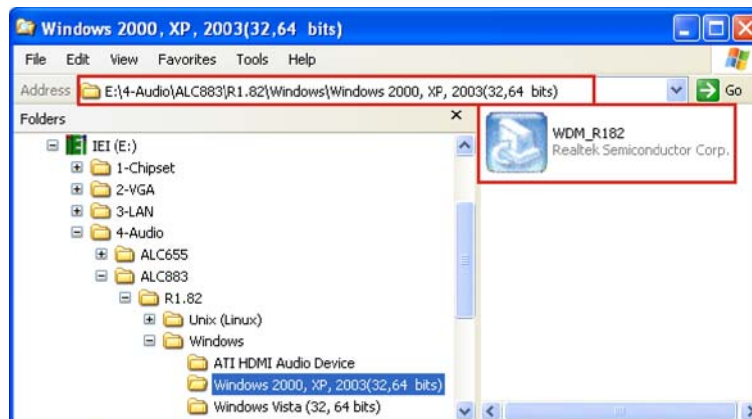

Figure 6-26: HD Audio Driver Options
Step 3: Browse to “E:\4-Audio\ALC883\Windows\Windows 2000, XP, 2003(32,64 bits)” Figure 6-26
Step 4: Double-click the installation file in Figure 6-26.